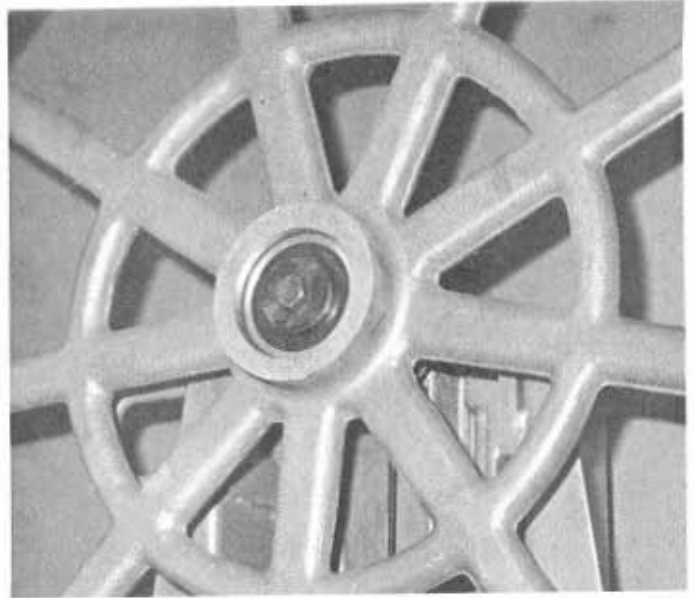

FIG 2
2. Fit top wheel to spindle and secure by 1 - 12mm bolt and flange washer, See FIG.2.